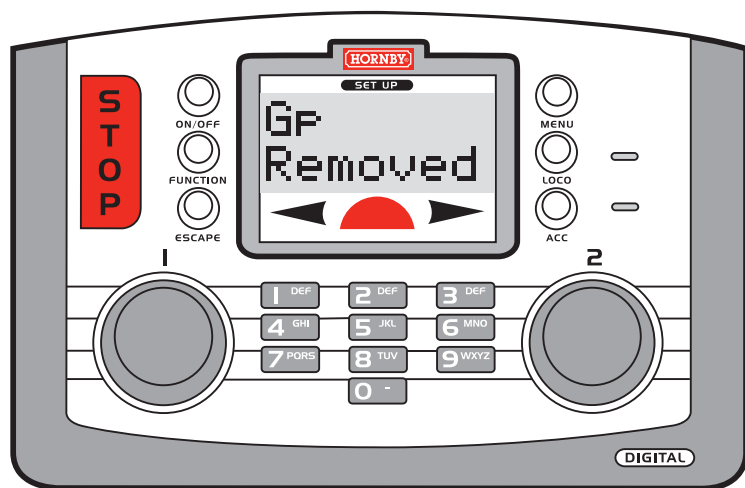

Fig. 1
5. Screen will then show in sequence "**Dissolve Adr: 0010**", "**Adr: 0001**", "**Adr: 0002**", "**Gp Removed**" (Fig. 1), and finally the address of the dissolved group "**00:00 1 0010**".